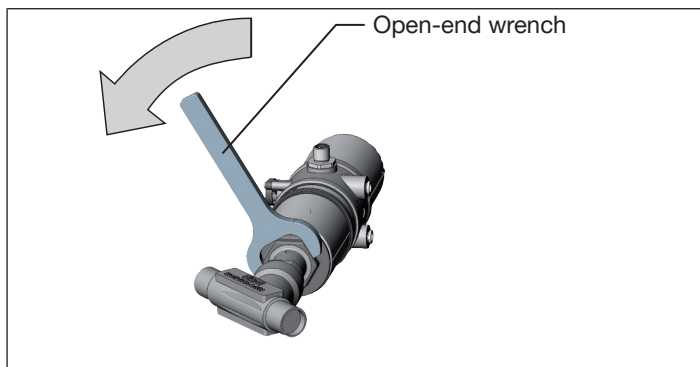

Fig. 23: Rotating with open-end wrench
- ▶ Only turn the actuator in the **specified direction** (see „Fig. 23“!)